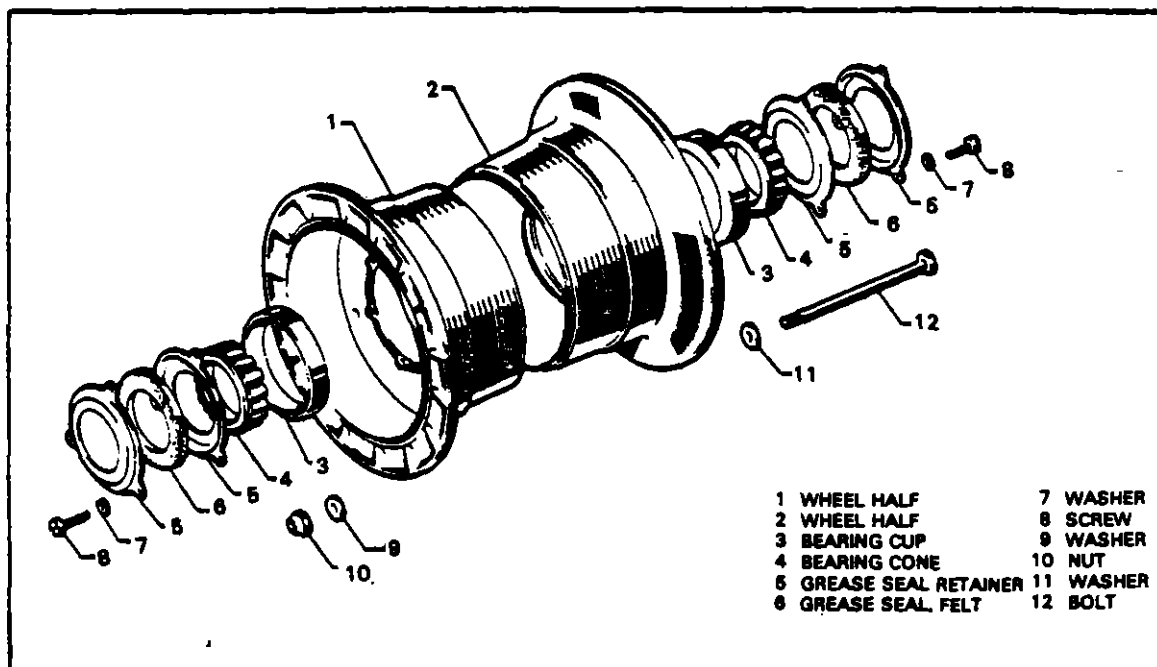
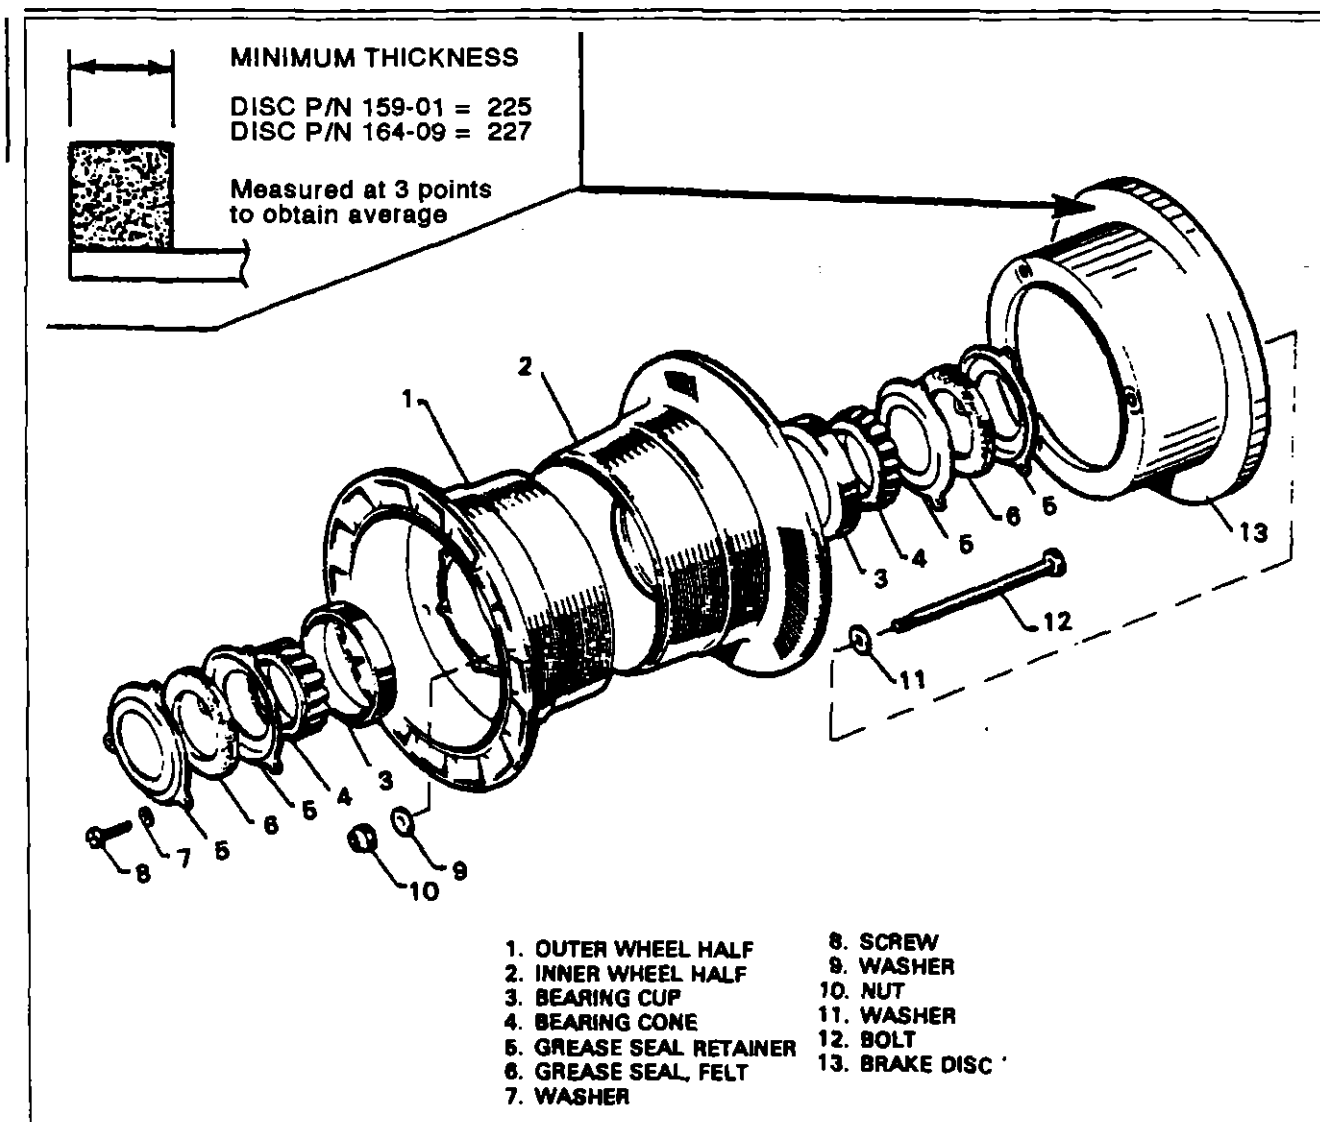

FIGURE 6-24. NOSE WHEEL ASSEMBLY
Figure 6-25. Main Wheel Assembly (Cleveland) PA-24-180 and PA-24-250
**6-68. Removal And Disassembly Of Nose Wheel. (Refer to Figure 6-24.)**
- d. The wheel may be disassembled by deflating the tire and removing the screws (8) securing the grease seal retainers (5).
- e. Remove the retainers and bearing cones (4).
- f. Remove the bolts (12) securing the wheel halves and separate them.
- g. The bearing cups (3) should be removed only for replacement and may be removed by tapping evenly from the inside of the wheel.
**6-70. Assembly And Installation Of Nose Wheel. (Refer to Figure 6-24.)**
- a. Ascertain that the bearing cup (3) in each wheel half is properly installed. Install the tire and join the two wheel halves. Install the through bolts (12) with the nuts (10) to the wheel valve stem side, torque to the specification given on the wheel and inflate the tire.
- b. Lubricate and install bearing cones (4).
- c. Install grease seals (6) and retainers (5) and secure with screws (8).
- c. On PA-24-180 and PA-24-250 airplanes, remove and disassemble the wheel as follows (refer to Figure 6-25):
- (a) Deflate the tire and remove the grease seal retainer (5) by removing the attaching screws (8).
- (b) Remove the bearing cones (4).
- (c) Remove the bolts (12) securing the wheel halves together.
- (d) The bearing cups (3) should be removed only for replacement and may be removed by tapping evenly from the inside.
- e. On PA-24-180 and PA-24-250 airplanes, install the wheel as follows (Refer to Figure 6-25):